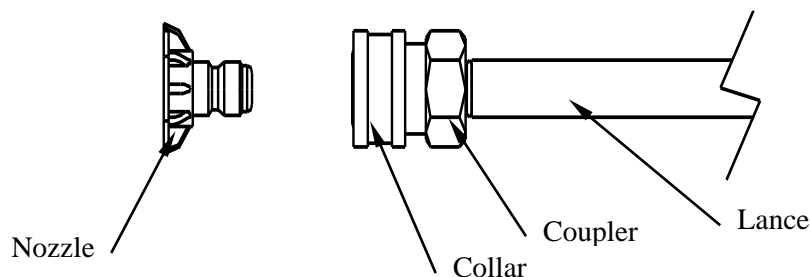

Fig. 9a
2. To install the nozzle, pull the collar back and twist the nozzle firmly into the coupler on the end of the wand. (Fig. 9a)